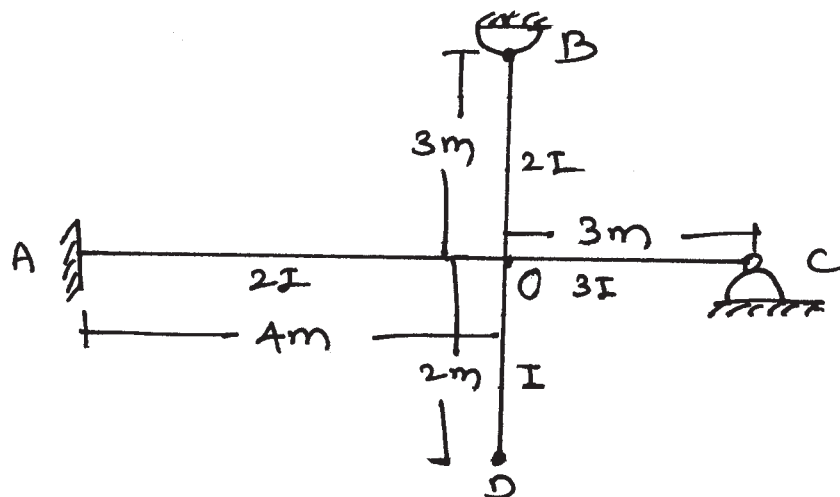

Fig. No. 3
- e) Calculate distribution factor for the members OA, OB, OC and OD for the joint 'O' as shown in Fig. No. 3.